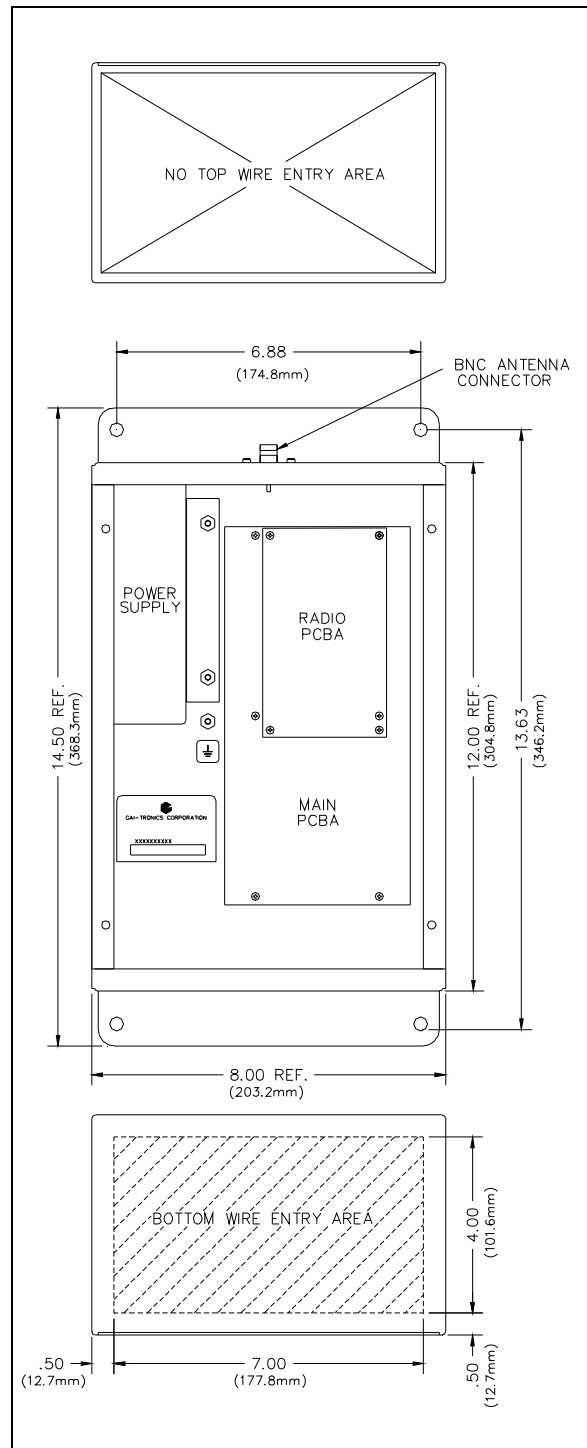

Figure 2. Mounting Details and Wire Entry Locations
2. Remove the front panel and drill or punch entry openings in the rear section of the enclosure (see Figure 2 for suggested locations).
The standard mounting orientation (see Figure 2), locates the power supply housing in the upper left corner. The orientation of the enclosure can be rotated 180° to allow clear access to the top. When mounting the enclosure, use caution to avoid damaging the internal components.